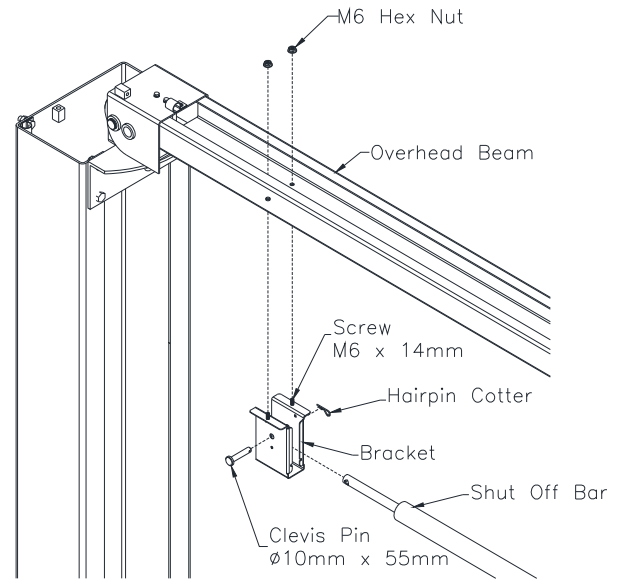

Fig. 7b – Overhead Limit Switch Idler Side
- 15) Install the Idler Bracket to the Overhead Beam on the Idler Side of the lift. See **Fig 7b**. **Note the orientation of the Idler Bracket. The narrow slot needs to be facing towards the Power Column.** Slide the Shutoff bar over the limit switch on the Power Side. Pin the Shutoff Bar to the Idler Side Bracket with the 10mm dia. x 55mm Lg. clevis pin & hairpin cotter.